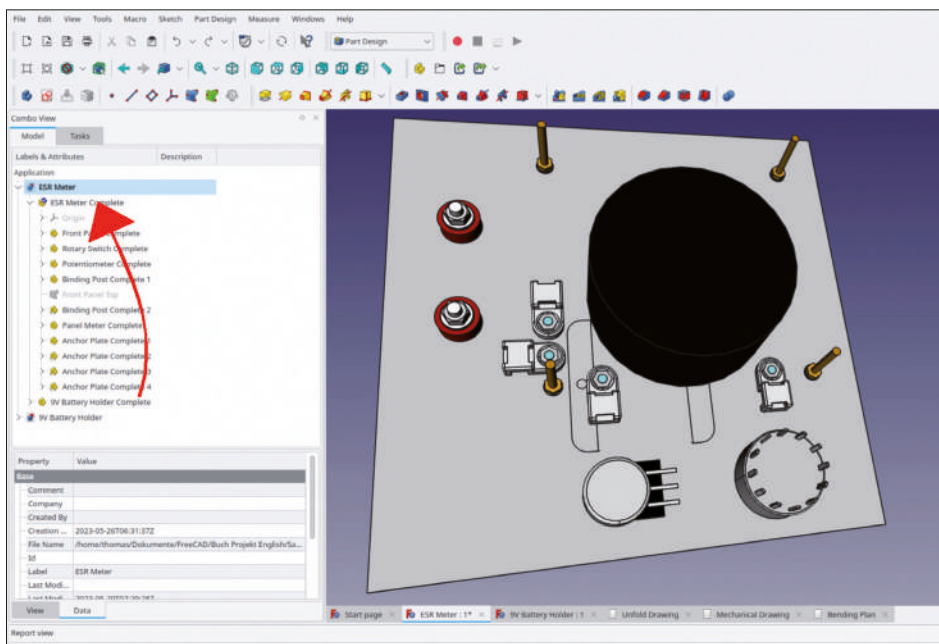

Figure 7-51
16. Run the standard procedure: In the directory 'Sample Projects | ESR Meter | Components', locate and open the file '9V Battery Holder'. Copy and paste the '9V Battery Holder Complete' Std-Part-Container into the 'ESR Meter' document tree. Then, drag and drop it into the ESR Meter complete' Std-Part-Container (Figure 7-51). Close the '9V Battery Holder' document tree.